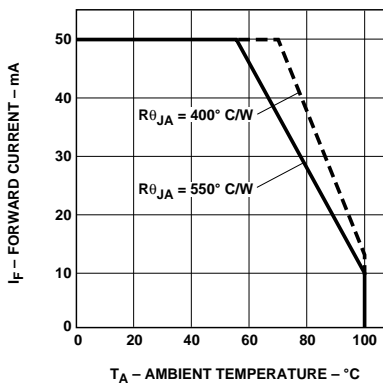

Figure 6. Maximum Forward DC Current vs. Ambient Temperature. Derating Based on  $T_{jMAX} = 110^\circ\text{C}$ .
3. Derate linearly as shown in Figure 6.